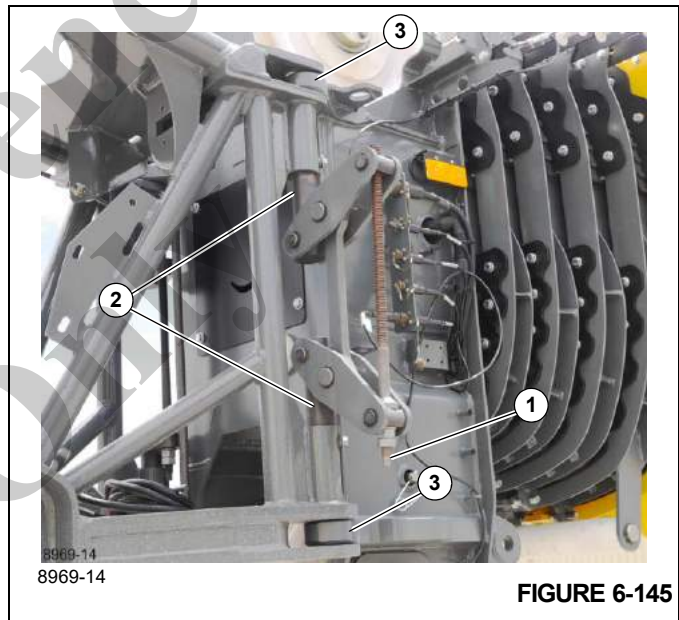

FIGURE 6-145
4. On the left side of the boom nose, use an impact driver to turn the jack screw (1), (Figure 6-145) clockwise to remove the pins (2), (Figure 6-145) from the attachment lugs (3), (Figure 6-145).